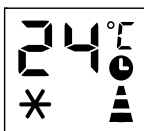

Fig 13
- When the appliance is running, press the button, the screen will display hours, and several symbols will flash.(fig 13)